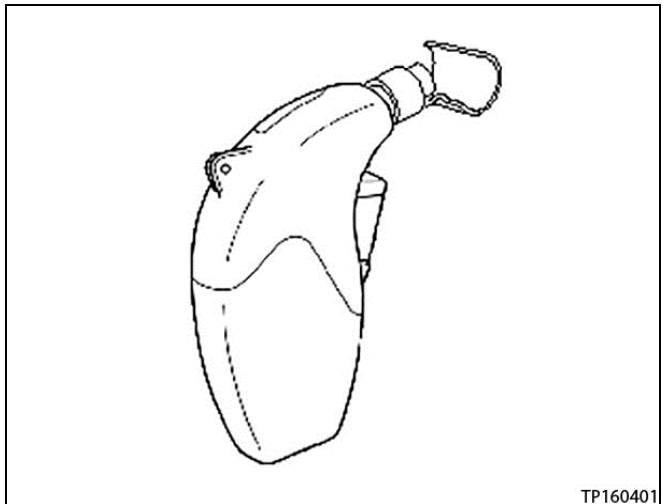

Figure 58
51. "Install" the solder sleeve connector by shrinking it to the wire with essential tool Flameless Heat Gun J-46538 or similar flameless heating tool (see Figure 58 and 59).